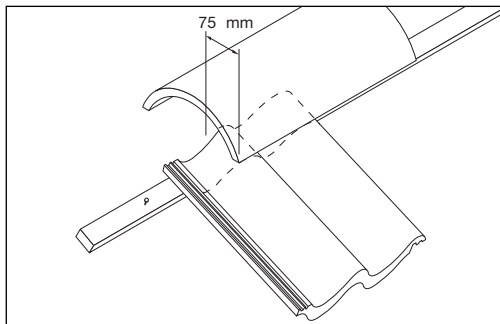

Fig 3 – Fixing top (ridge) course batten
- 4 Fix top course batten so that ridge tile provides a minimum 75mm cover to top course tile (Fig 3).